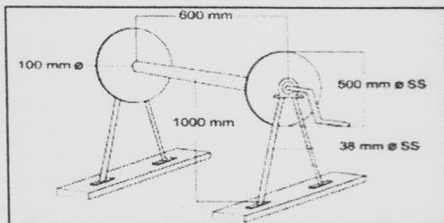
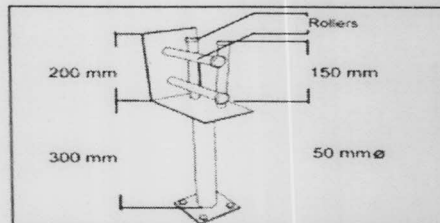

Fig. 3: Stainless steel winch
Fig. 4: Stainless steel guide pulley
A stainless steel (grade IS 304) hand operated winch (1250 mm x 600 mm) is provided for hauling the line. The drum can store 5,000 m of 3.0 mm dia Polyamide monofilament (PA) twine (Fig. 3). A stainless steel (grade IS 304) guide pulley is provided in the forward port side of the boat for guiding the mainline towards the drum (Fig. 4).